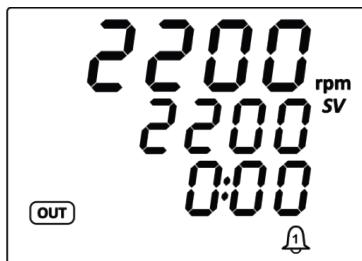

Figure 7 - Motor overload
- 8.4.1. If during stirring, an audible signal sounds and the display shows the motor overloading indicator  (Figure 7), then stop stirring and find the cause of overload. Particularly check, whether volume of stirred fluid and its viscosity is within allowable limits for this stirrer.